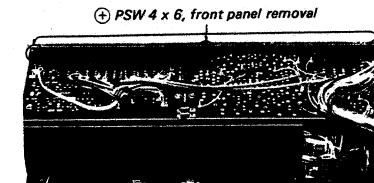

Fig. 2-2. Front panel removal
4. Remove the three self-tapping screws (\oplus PSW 4 x 6) behind the top edge of the front subchassis as shown in Fig. 2-2.